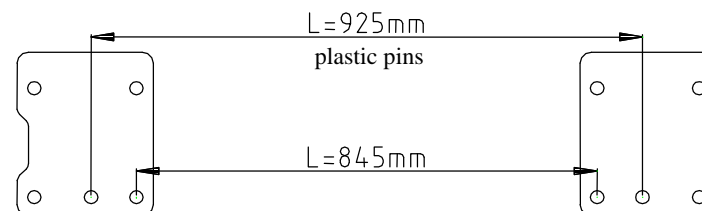

Fig.2 Elements distance
3. On the left and right side in the boot are plastic pins ($\varnothing 11$ mm). On this pins put elements pos. 6 (pins in pos. A hole) – see fig. 2. Next drill holes through holes pos. 2 and 3, use bit $\varnothing 11$ mm, drill straight through.
4. Put bolts M10x40 through holes(pos. C in element pos. 6 and next from below of car sandwich element pos. 4 from the left side (screw loosely), from the right side sandwich element pos. 5 (screw loosely too).
5. Through holes pos. B (in elements pos. 6) put bolts M10x30 and fix it with floor and element pos. 7.
6. In this way prepared elements (pos. 4 and 5) put main bar of the towbar (pos. 1) and fix it using bolts M12x30 (loosely).
7. Through holes pos. D fix with original tow handle using distance plain washers $\varnothing 58 \times \varnothing 12 \times 6$ mm pos. 8.
10. Fix body of the automat (pos. 22) and the socket plate (pos. 3) using bolts M12x25mm (pos. 9) from accessories. Place tow-ball (pos. 2) according to supplied instruction.